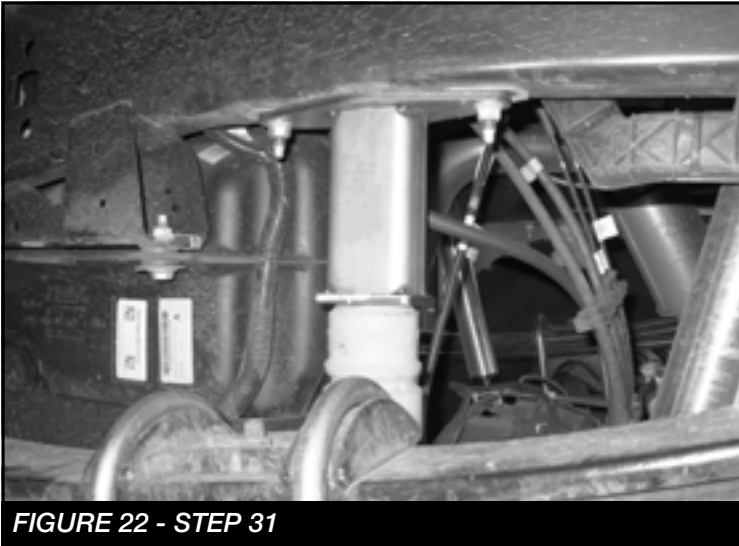

FIGURE 22 - STEP 31
31. **(5" BLOCK)** Remove the rear factory shocks, ubolts and blocks. Locate and install the 5" rear lift blocks (FTBK53) using the supplied u-bolts, nuts and washers. Align axle, lift blocks and springs and torque to U-Bolts to 170 ft-lbs. Remove the factory rear bumpstop assemblies from the frame. Save hardware. Remove the foam bump from the mount plate. Install the factory foam bumpstop to FT30891 (Bumpstop bracket) Torque to 40 ft-lbs. Then, install the assembly to the frame using the factory nuts. Torque to 70 ft-lbs. **SEE FIGURE 22**